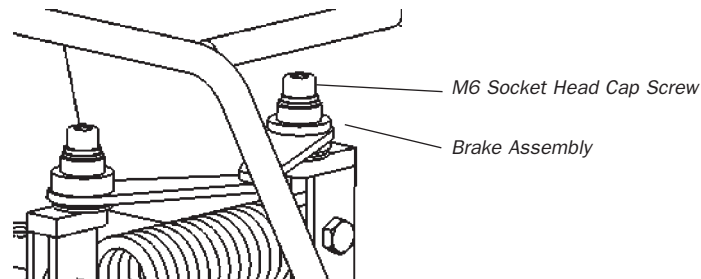

Figure 9.6.4.5 The Brake Assembly
31. Install new Brake Arm assemblies (orientate bronze bushing facing up) using all new fasteners supplied in Kit. Apply threadlocking adhesive to fastener ends and tighten. See Figure 9.6.4.5.